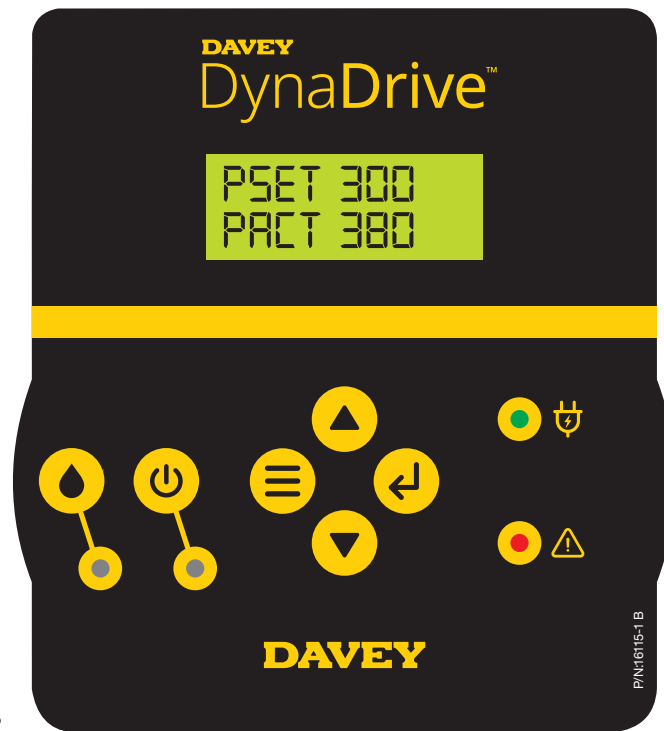

Figure 6.12
- Press ↵ **Enter button**, or ☰ **Menu button** to return to the **HOME SCREEN**, see figure 6.12;